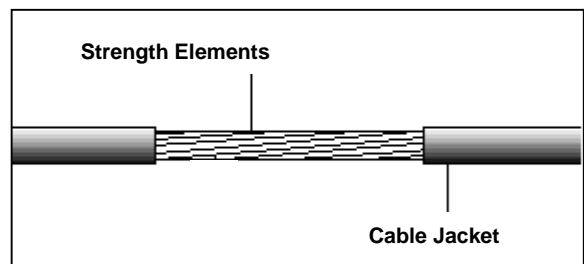

Figure 2
7.5.3 Using the Ripley's RCS-114 or RCS-158 Cable Stripper, make two longitudinal cuts along the jacket 180° apart, between the two ring cuts. Using pliers, remove the two jacket halves exposing the strength elements. (Figure 2).